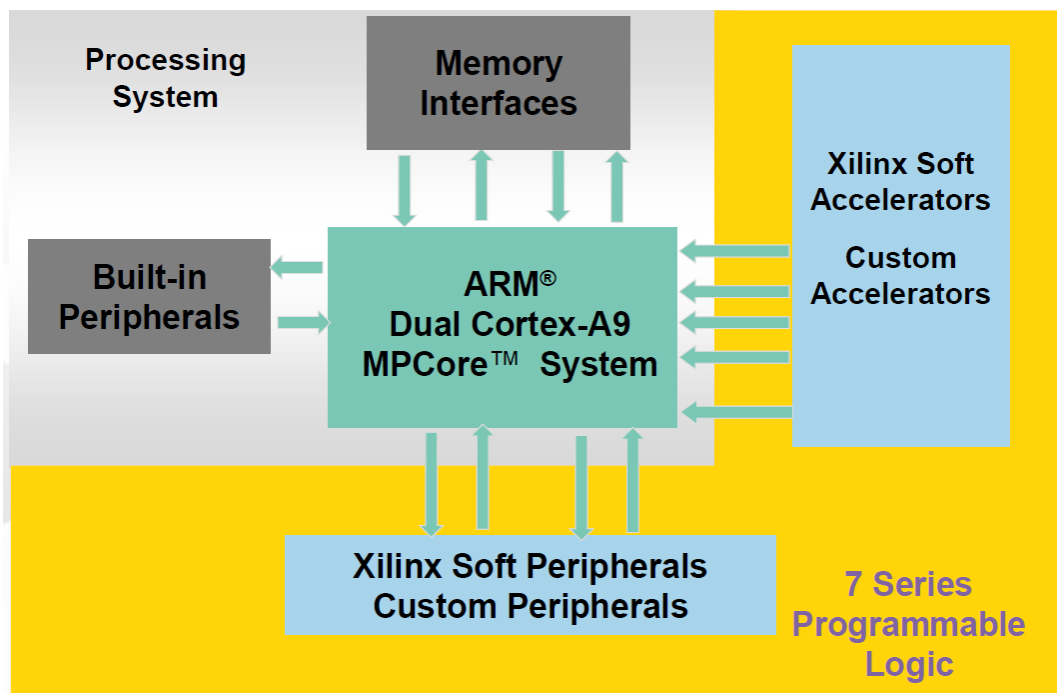

Figure 1. Simplified model of the Zynq architecture.
Zynq (Figure 1) is what Xilinx calls an All Programmable System On Chip (APSoC) architecture. As shown in Figure 1 it consists of two parts: a) the Processing System (PS) formed around a dual core ARM9 Cortex-A9 processor with vector processing extensions with interfaces to built-in memories and peripherals. b) The Programmable Logic (PL)